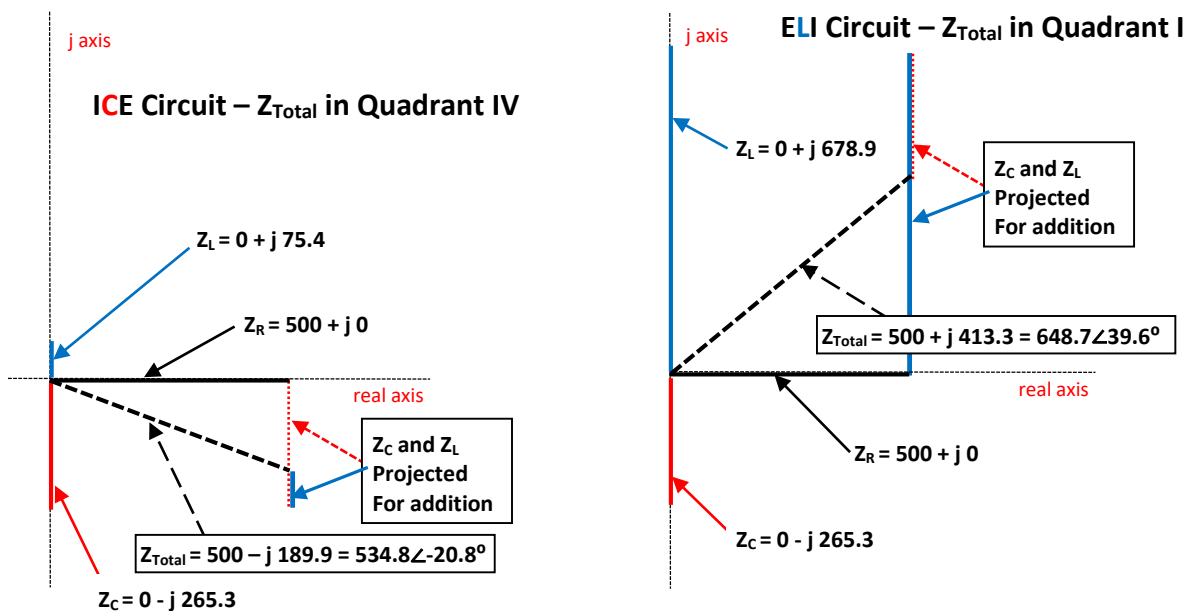

Figure 3.9: Impedance Plots for Example 3.4. Case 1: $L = 0.2 \text{ H}$ (Left Plot), Case 2: $L = 1.8 \text{ H}$ (Right Plot)
The phasors for the total impedance (Z_{tot}) for each of the two cases ($L = 0.2 \text{ H}$ and $L = 1.8 \text{ H}$) are calculated in textbox in Figure 3.8. An impedance plot is performed in Figure 3.9 to help verify the total impedance was calculated correctly.
* Case 1: $L = 0.2 \text{ H}$, $Z_{\text{Total}} = 534.8 \angle -20.8^\circ$ (see Fig. 3.9)	* Case 2: $L = 1.8 \text{ H}$, $Z_{\text{Total}} = 648.7 \angle 39.6^\circ$ (see Fig. 3.9)